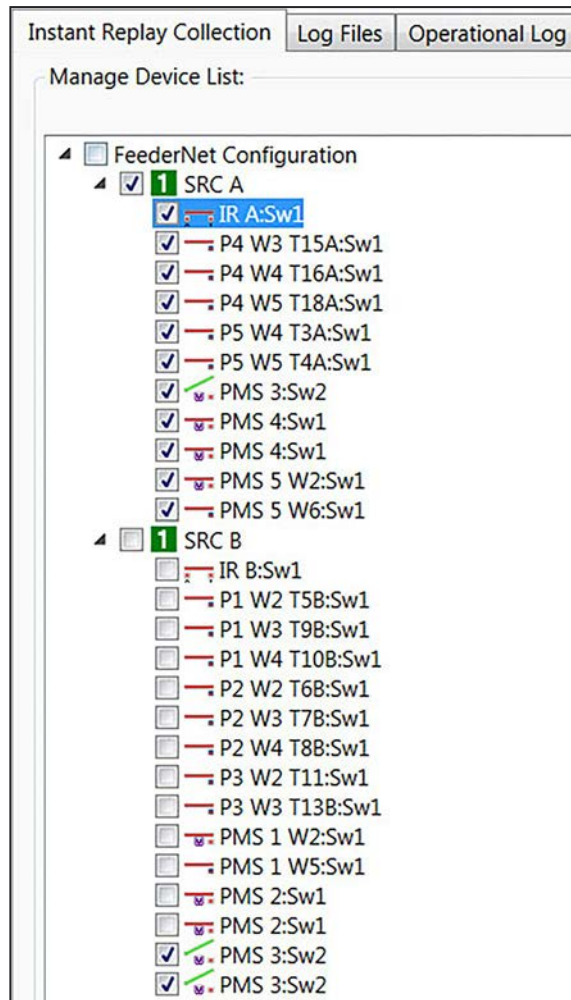

Figure 103. Device selection for Instant Replay collection.
- STEP 2.** When a feeder has been selected, click on the check boxes next to the devices that need to have the Instant Replay logs collected for that feeder. See Figure 103 as an example.